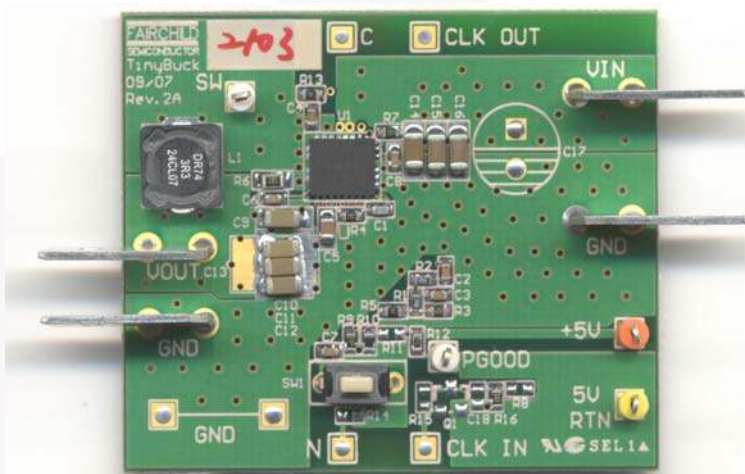

Figure 1. Evaluation Board and Required Connections
1. Establish connections to test equipment as shown in Figure 1. Use suitable diameter wires and connectors to avoid excessive voltage drop or temperature rise.